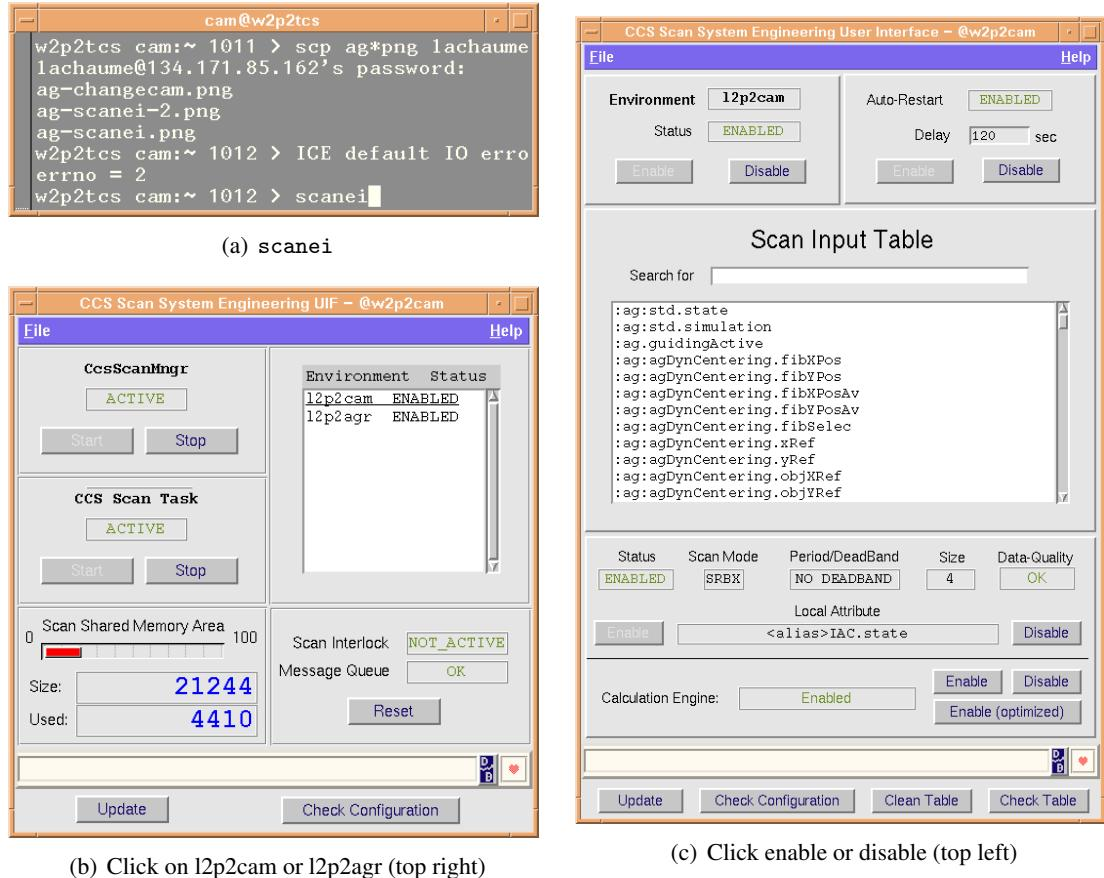

Figure 8.2: scanei on the FEROS and GROND AG machine.
- (b) scanei, disable and enable l2p2agr (See Fig. 8.2)
- ii. If not enable l2p2cam (see Fig 8.2)